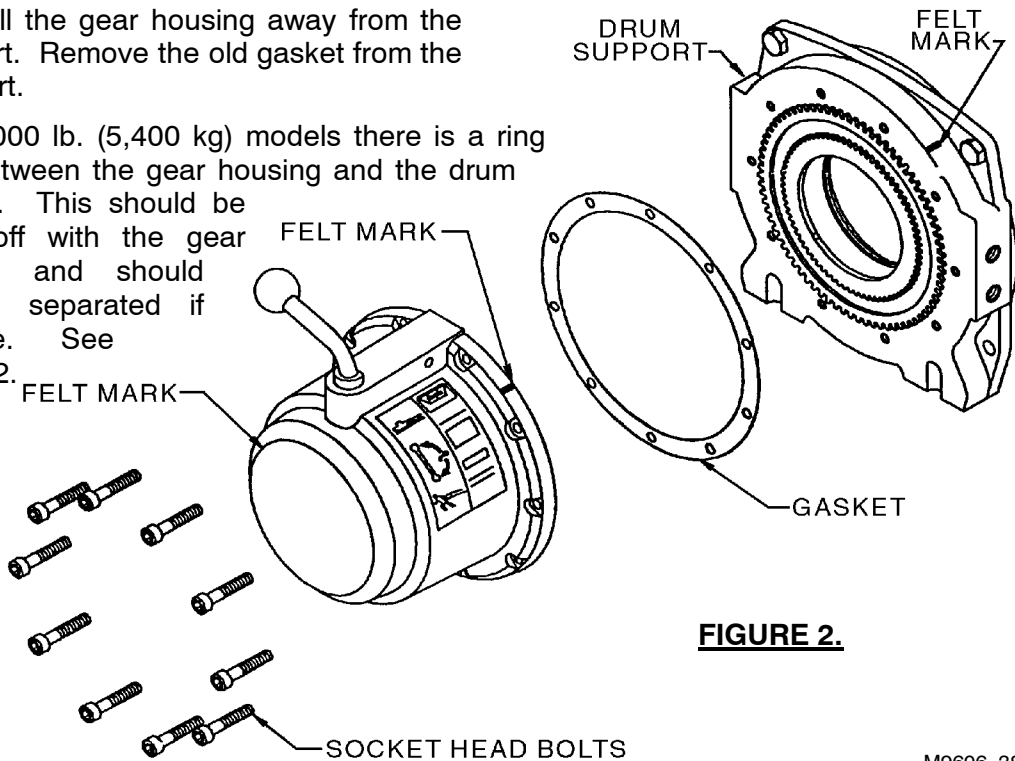

**FIGURE 1.**
- a. If the winch is equipped with a safety latch, remove the socket head bolts holding the latch onto the gear housing. (NOTE: Although the safety latch will not be used with this kit, you must reinstall the two bolts to fill the tapped holes in the gear housing.) See Figure 1 to the right.